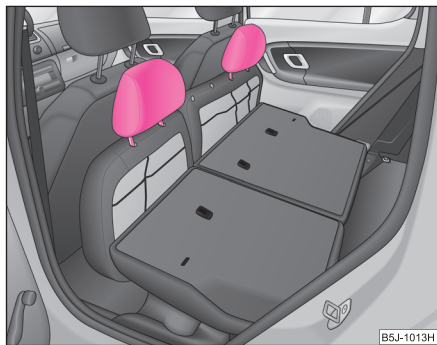

Fig. 55 Rear seats: Head restraints in rear seats
- The head restraints can be inserted into the relevant holes of the folded forwards rear seats ⇒ fig. 55.